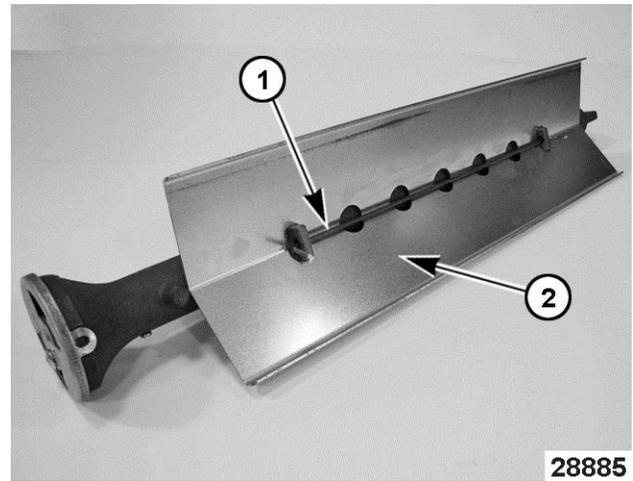

Fig. 84
4. Remove burner rod (1, Fig. 84) securing deflector (2, Fig. 84) to burner.